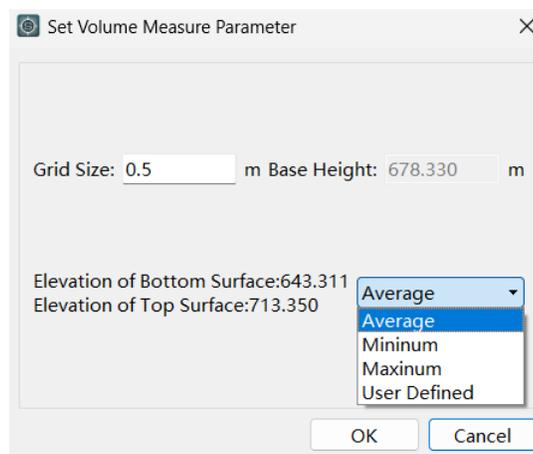
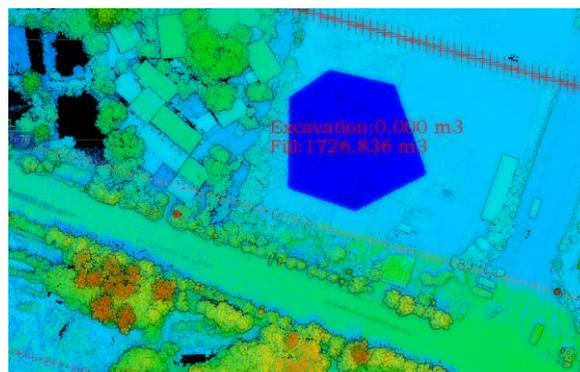

Figure 3-103 Measure Volume setting
Figure 3-104 Measure Volume
- (1) Click the menu <Tools> → <Measure Volume>.
- (2) Click the left mouse button to draw polygons in different locations in the view, double-click the left mouse button to end the drawing.
- (3) The Measure Volume Settings dialog box pops up (Figure 3-103), where relevant parameters can be set. Click the <OK> button, the volume value within the polygon is displayed on the view (Figure 3-104).
- (4) Cancel: click <Measure Volume> again.